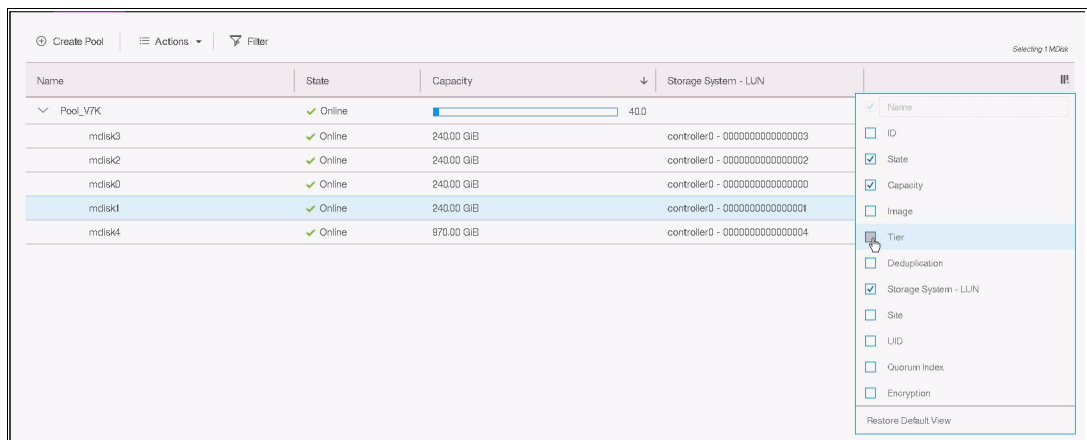

Figure 7-6 Customizing the title row to show the tier column
- If you do not see the *Tier* column, right-click the blue title row and select the **Tier** check box, as shown in Figure 7-6.